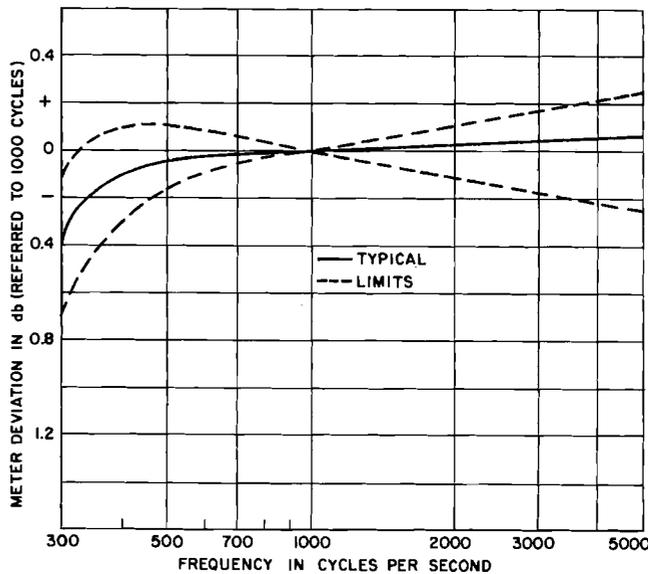

Fig. 4 – Frequency Characteristic of the 23A Transmission Measuring Set
3.13 Fig. 4 shows the frequency characteristic of the 23A set. The dashed lines show the frequency characteristic limits which might be expected due to component tolerances. The solid line represents the typical performance. In the frequency range of 400 to 5000 cps the frequency characteristic is practically flat — the maximum meter deviation being about 0.2 db. In the range below 400 cps, due to the effect of the low-frequency filter, the characteristic falls off — the meter deviation at 300 cps being about 0.4 db below the 1000-cycle reading. At 180 cps, the